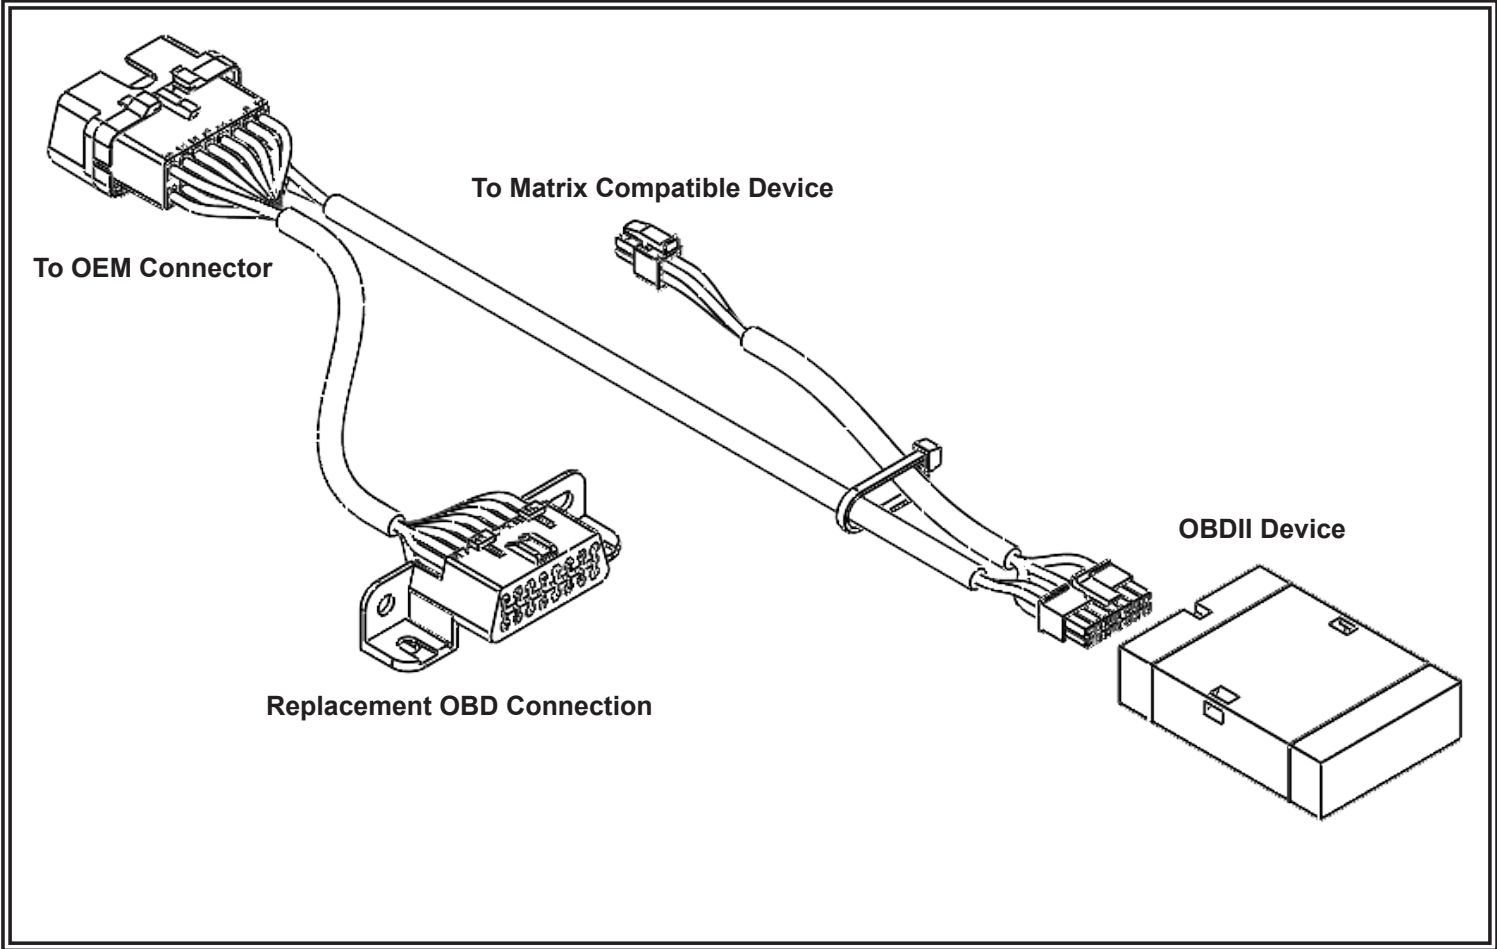

Figure 4
Step 1. Route the remaining, unused OBDII Harness connectors to the location where the OBDII Device will be mounted. The OBDII Device must be mounted near another Matrix® compatible device with a 4 Pin AUX connector. Confirm that the cable length is sufficient to reach both required locations. See FIGURE 4 for further details.